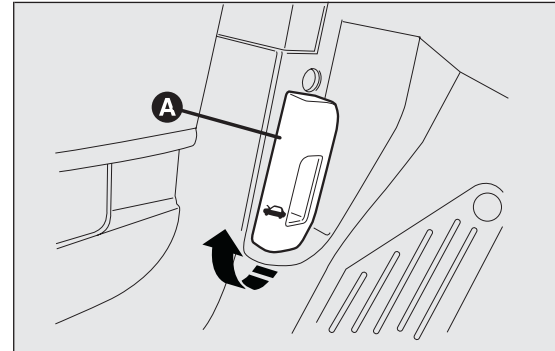

fig. 98
- pull lever A fig. 98 in the direction indicated by the arrow;